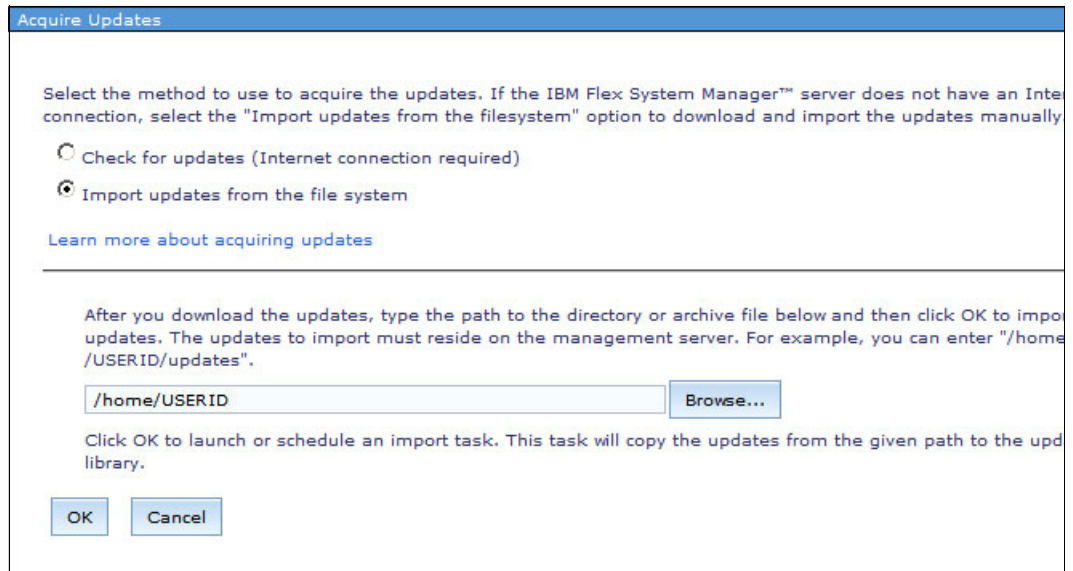

Figure 6-94 Acquire Updates window
3. In the Acquire Updates window (see Figure 6-94), select the method of acquiring updates and click **OK** to start the Acquire Updates job.